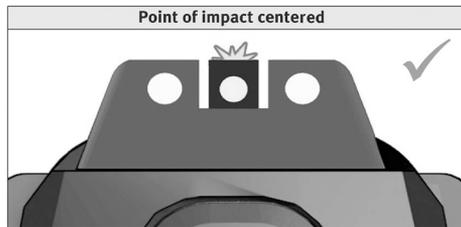
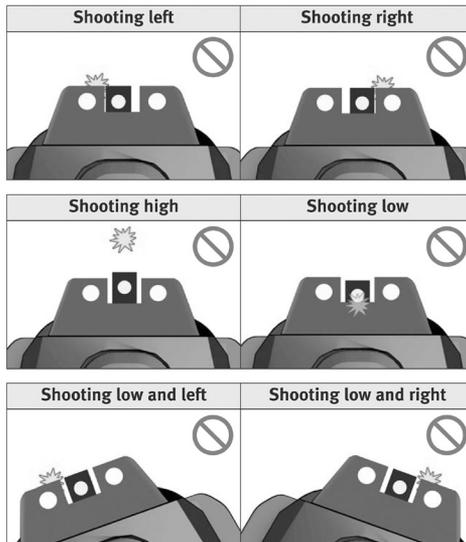

Figure 8 – Correct sight alignment ("Dead On" or "Cover Up" hold)
Figure 9 – Common sight alignment errors
The VP is equipped with a three dot sighting system, similar to those first introduced by HK on the P7 series pistol in the 1970s. The sights are adjustable for both windage (by drifting) and elevation (by replacement of the front sight). Sights are installed and aligned by HK technicians at the factory. Only an HK certified armorer should adjust or replace the VP sights. Figure 8 shows correct sight alignment (generally for the VP series it is a "dead on" or "cover up" hold). Figure 9 shows common sight errors.
1. Acquire the proper sight alignment and sight picture (see Figure 8).